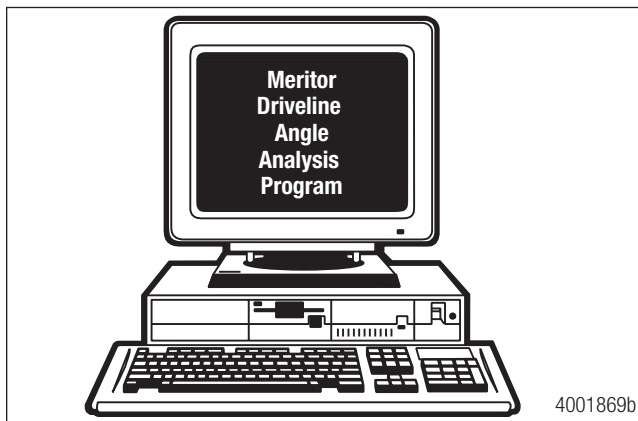

Figure 14.21
3. You are now ready to enter the dimensions you recorded on the Data Gathering Worksheet into the Meritor Driveline Angle Analysis Program on the disk included with this manual. Figure 14.21.